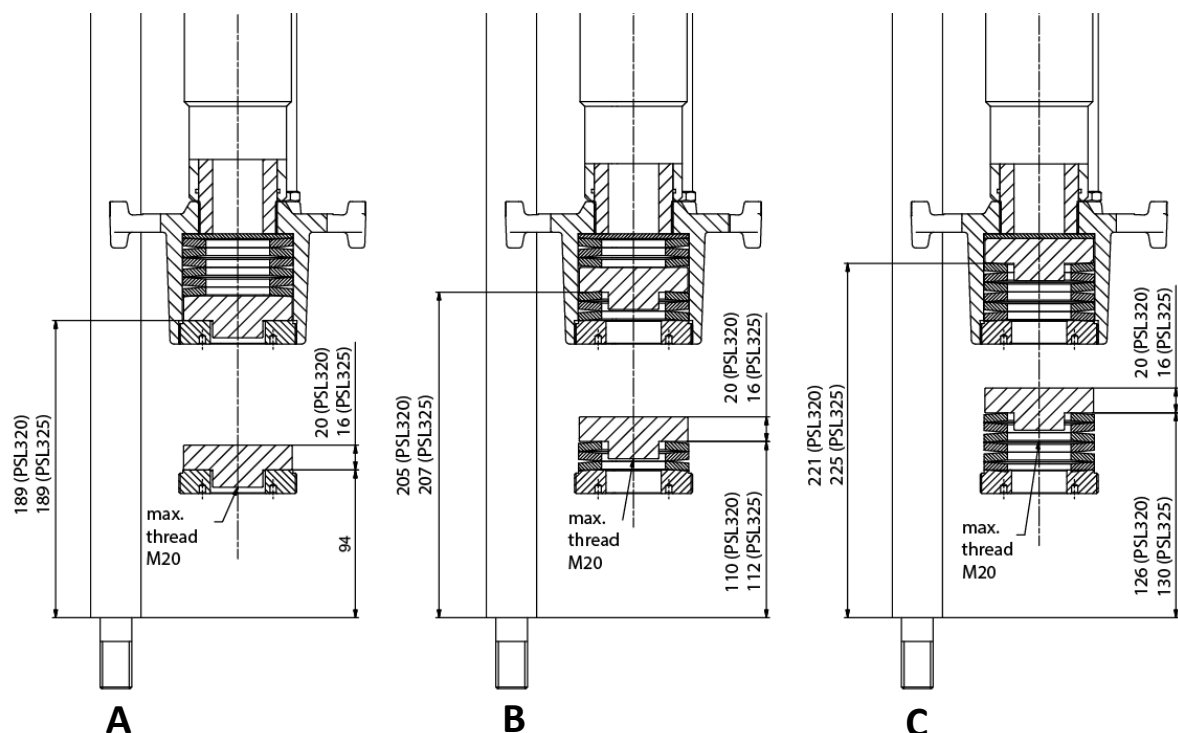

Figure 8: Standard disc spring coupling
- A: Arrangement for a through-valve with "Valve stem retracting" as direction of closing (fig. 8).
- B: Arrangement for a 3-way valve (fig. 8).
- C: Arrangement for a through valve with "Valve stem extending" as direction of closing (fig. 8).